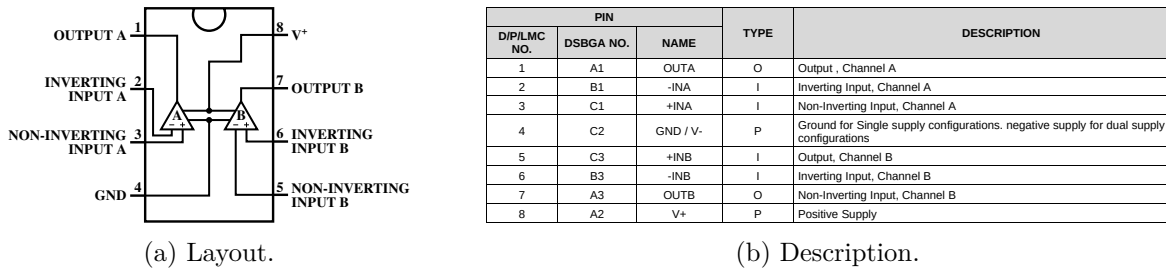

Figure 16: Pin layout and descriptions of the LM358 op-amp [10].
**Build a voltage divider circuit on the breadboard to convert the resistance of the thermistor into a measurable voltage. Use the an op-amp as a voltage follower with gain 1 to amplify this voltage signal (see Figure 16). Reproduce the temperature measurements from subsection 3.7.**